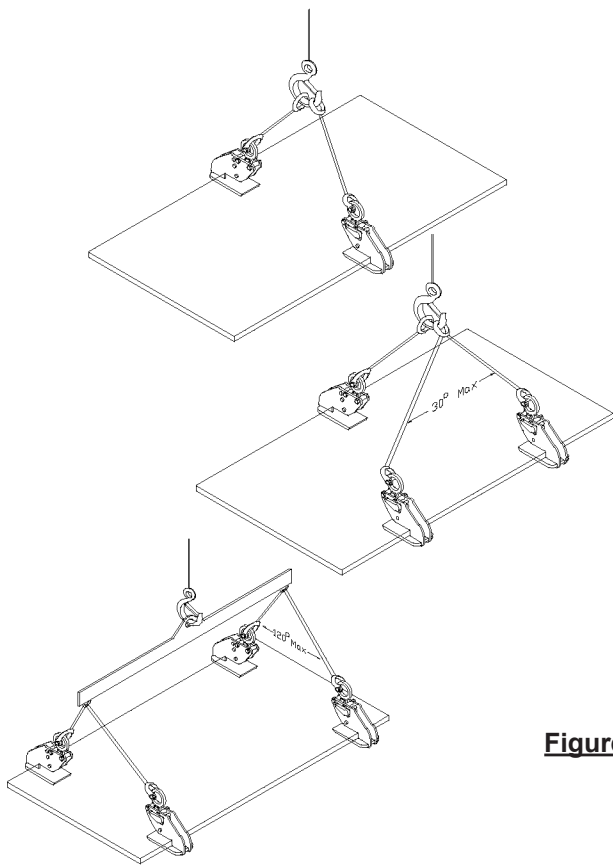

Figure 1
3. The “HL-Lock” model clamps are used in pairs, sets of pairs, or in a tripod configuration (Fig. 1).
3. Inspect gripping cams [SC-50 or SC-42, Fig. 1] for wear and/or damage. Make sure gripping surfaces are sharp and clean.